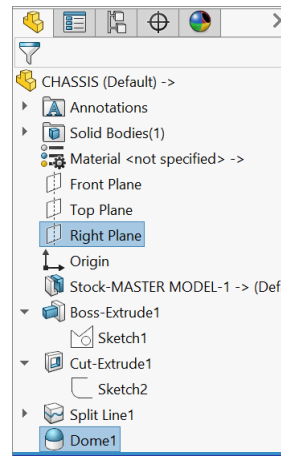

Fig. 25
Step 1. **Ctrl click Right Plane** and **Dome1** features to select plane and feature, **Fig. 25**.